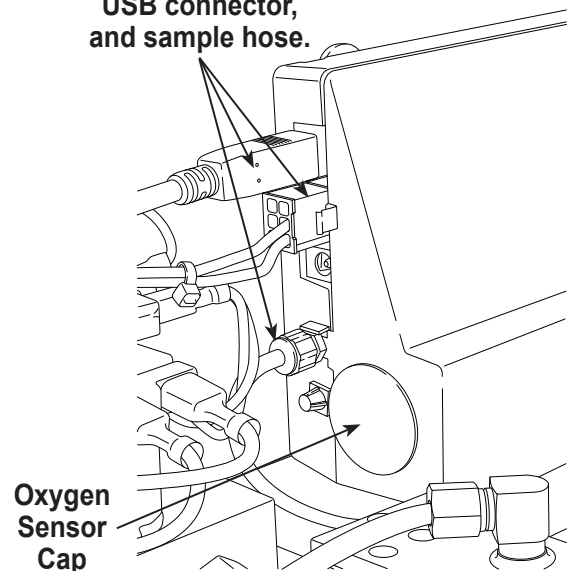

Figure 13
3. Disconnect the wire harness, USB connector, and sample hose from the identifier. See Figure 13.